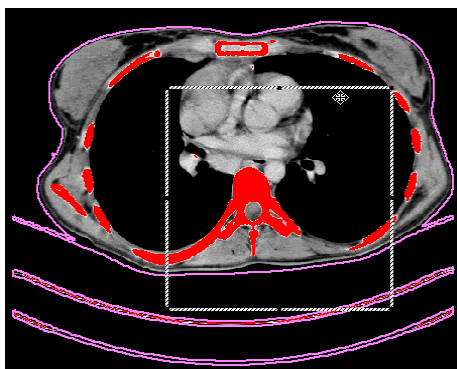

Figure 256 – Moving the rectangle constraint
- Move the rectangle or drag the sides to change its size until the desired area is demarcated (see Figure 256).